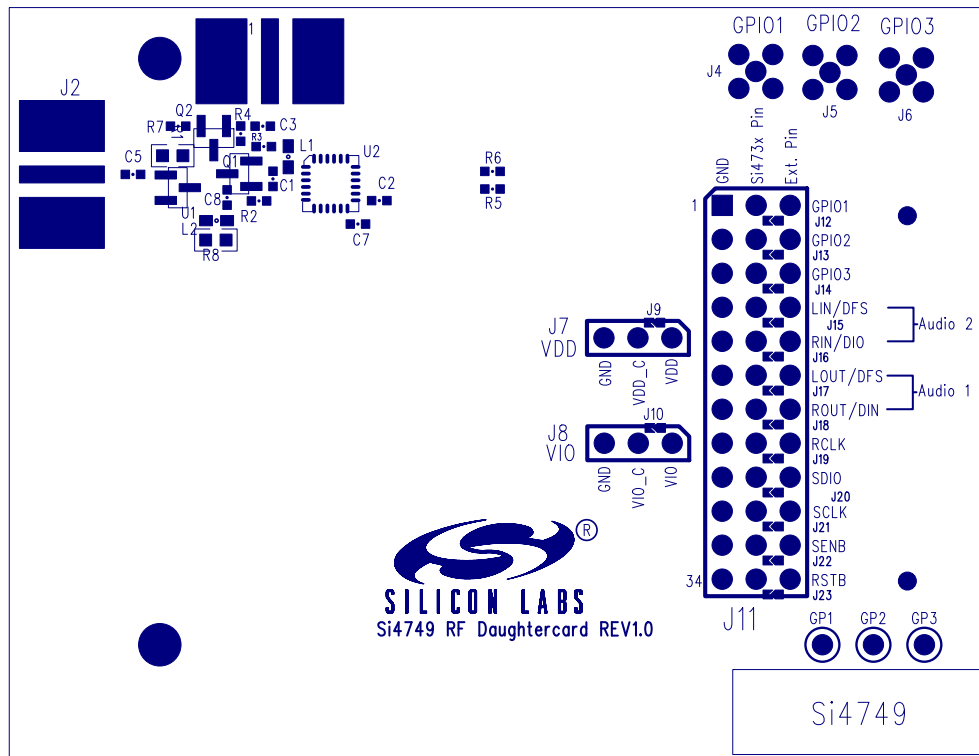

Figure 123. Si4749-EVB Daughtercard Rev 1.1—Primary Side Silkscreen
**Note:** For Figures 123 through 128: C4, C6, R9, and R11 manually added to Si4749EVB Rev 1.0 to create Si4749 EVB Rev 1.1.